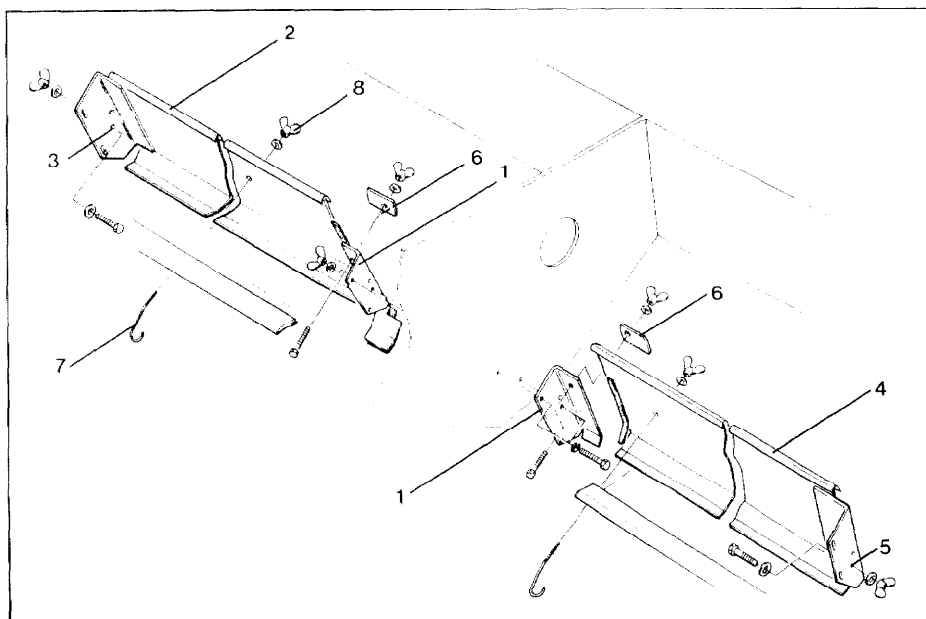

Fig. 51
- Bolt on the middle side brackets (fig. 51/1) to the seed box central divider.
- Mount right hand seed box insert (Fig. 51/2) with hexagon bolt, 2 washers and wing nut to the right hand seed box outer wall. Use holes Fig. 51/3.
- Clamp rape insert boxes in the seed box centre by using the clamping brackets (Fig. 51/6).